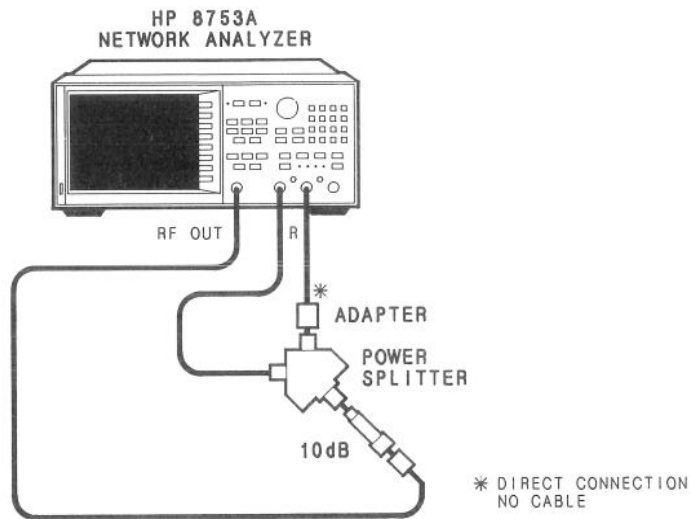

Figure 9. Absolute Amplitude Accuracy Test Setup (Input A)
10. Connect the equipment as shown in Figure 9.